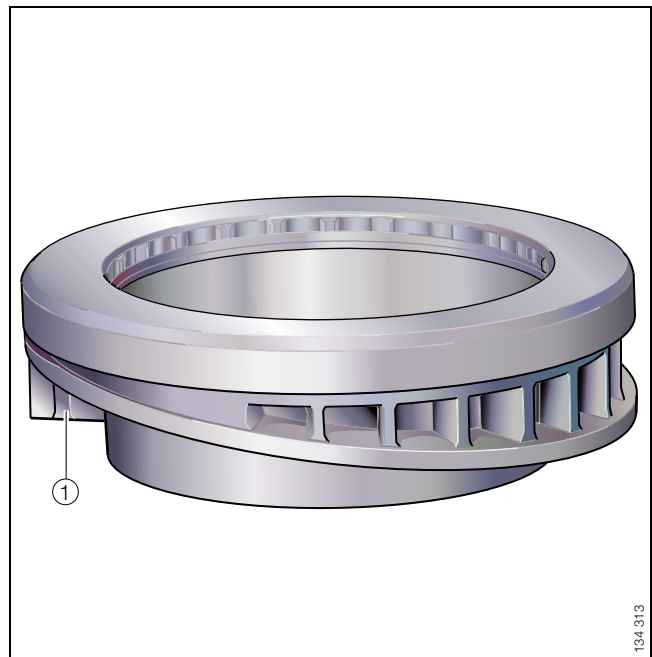

Figure 9 · Suspension strut bearing with reinforced plastic housing
The bearing in Figure 9 has a reinforced plastic housing ①. This allows the spring to be supported directly on the bearing without an additional spring plate.